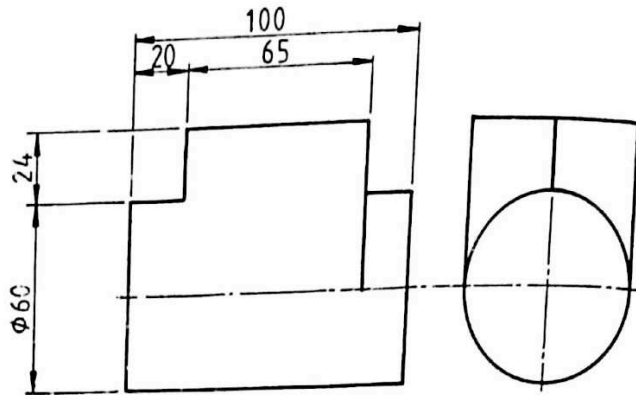

FIG. 2 FÍOR 2
2. Two incomplete elevations of the joint between a cylindrical and a triangular pipe are shown in Fig. 2.